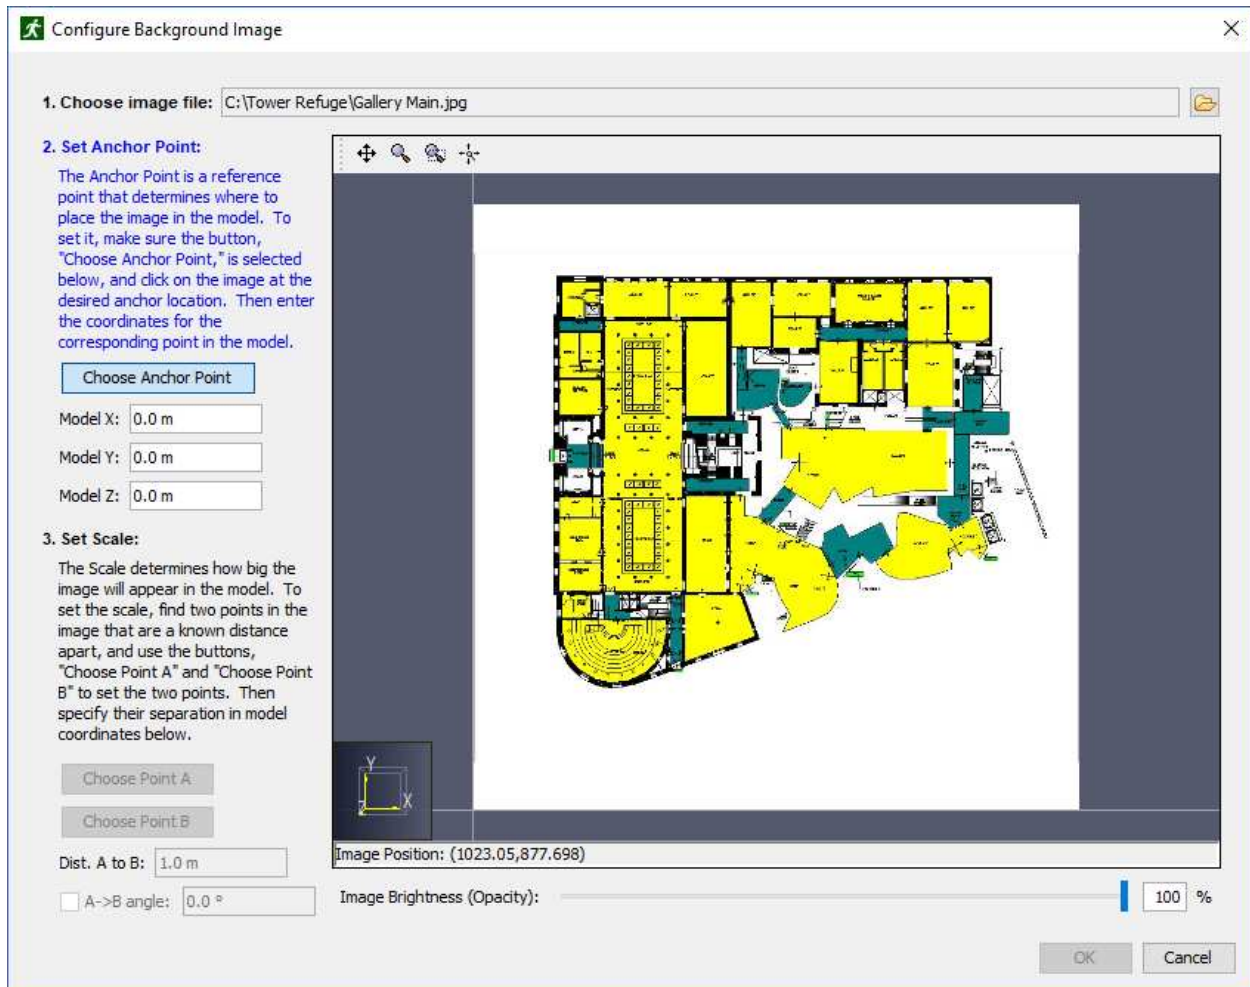

Figure 67. Set the anchor point
1. When clicked, a dialog will appear prompting for an image file. The following image formats are currently supported: BMP, GIF, JPG, PNG, and TGA. After a file is selected, a new dialog will appear as shown in Figure 67. This dialog allows properties of the image to be specified so that the proper scaling, rotation, and offset can be applied.